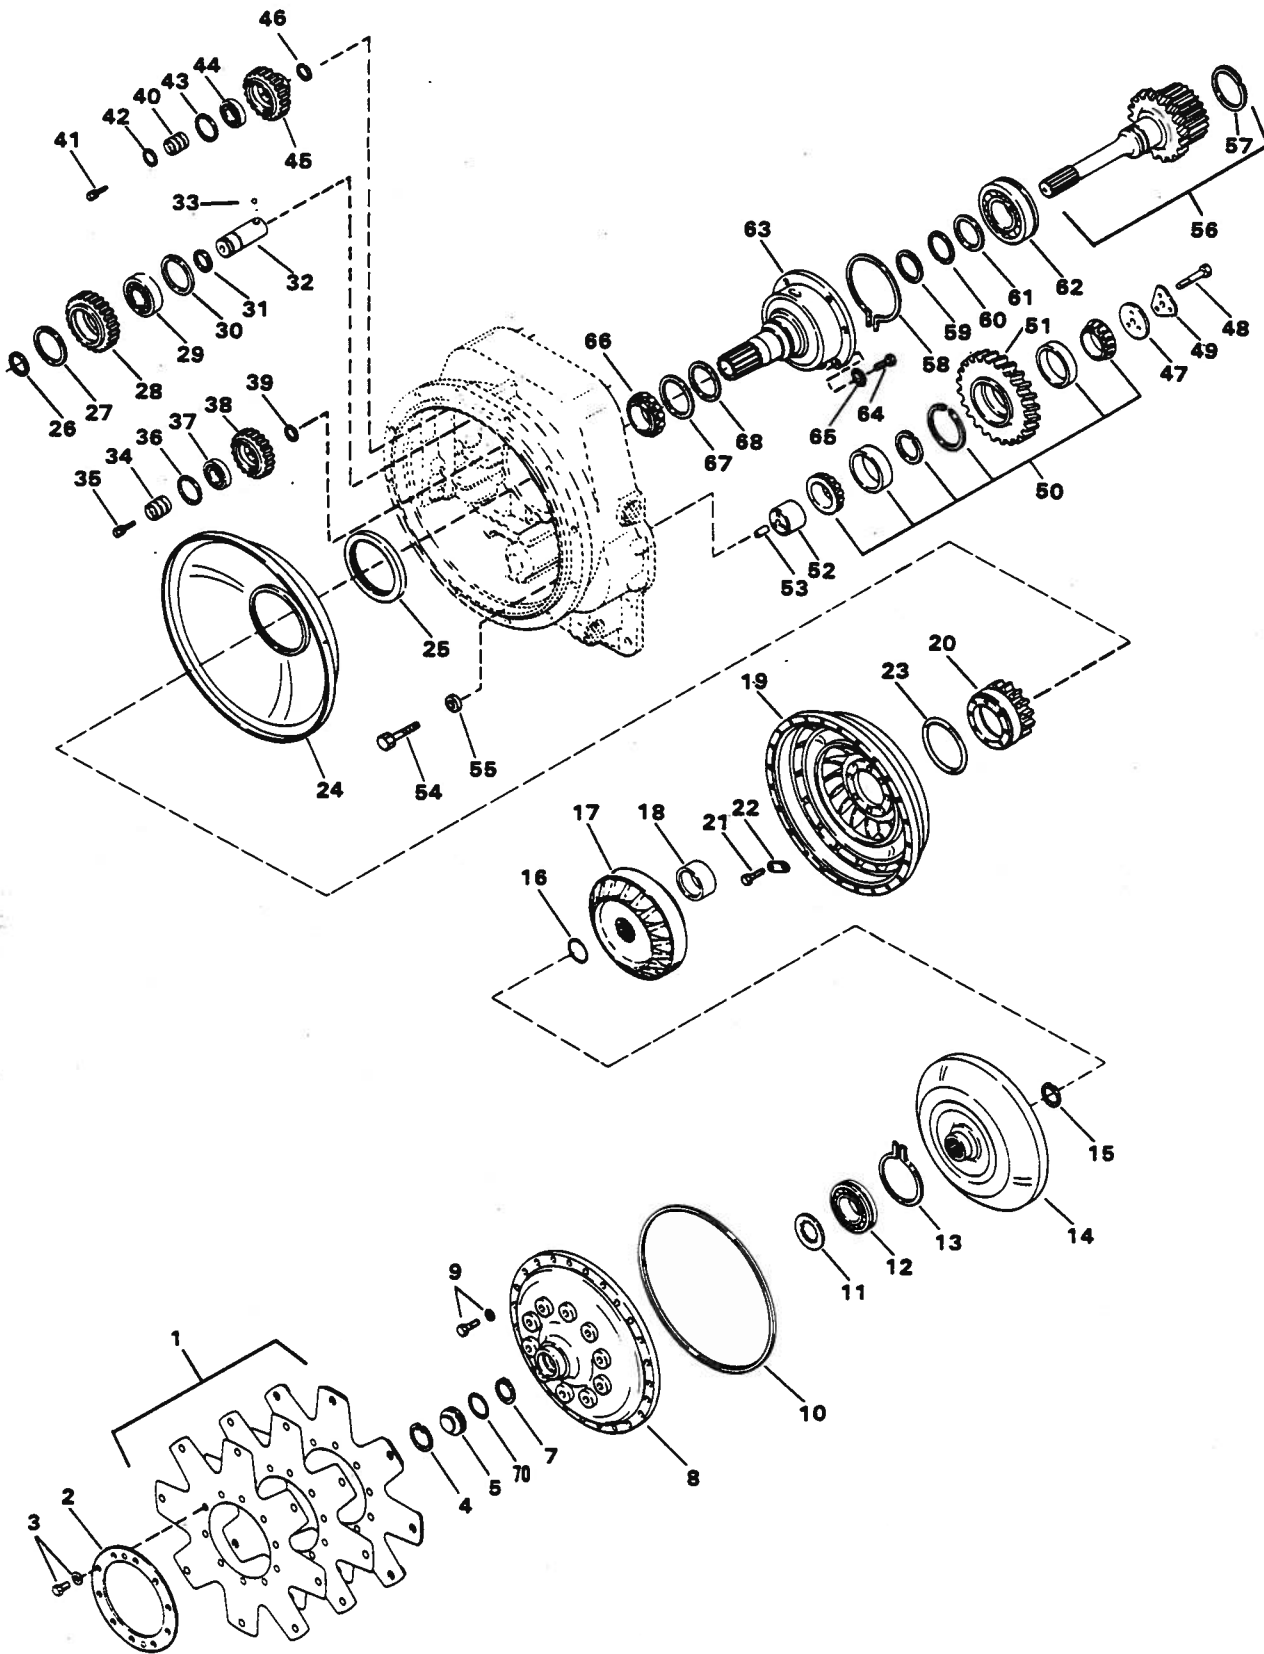
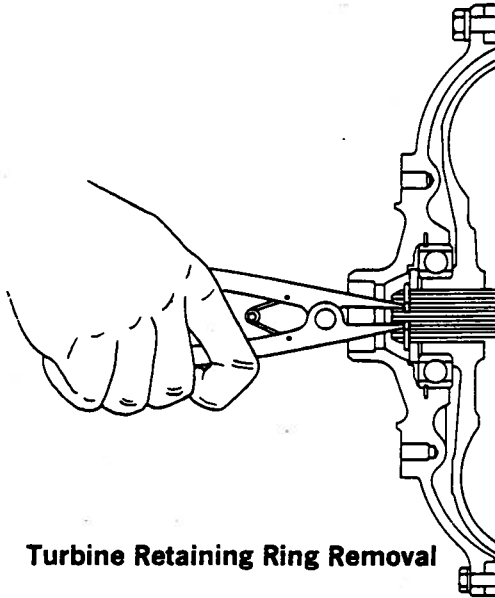
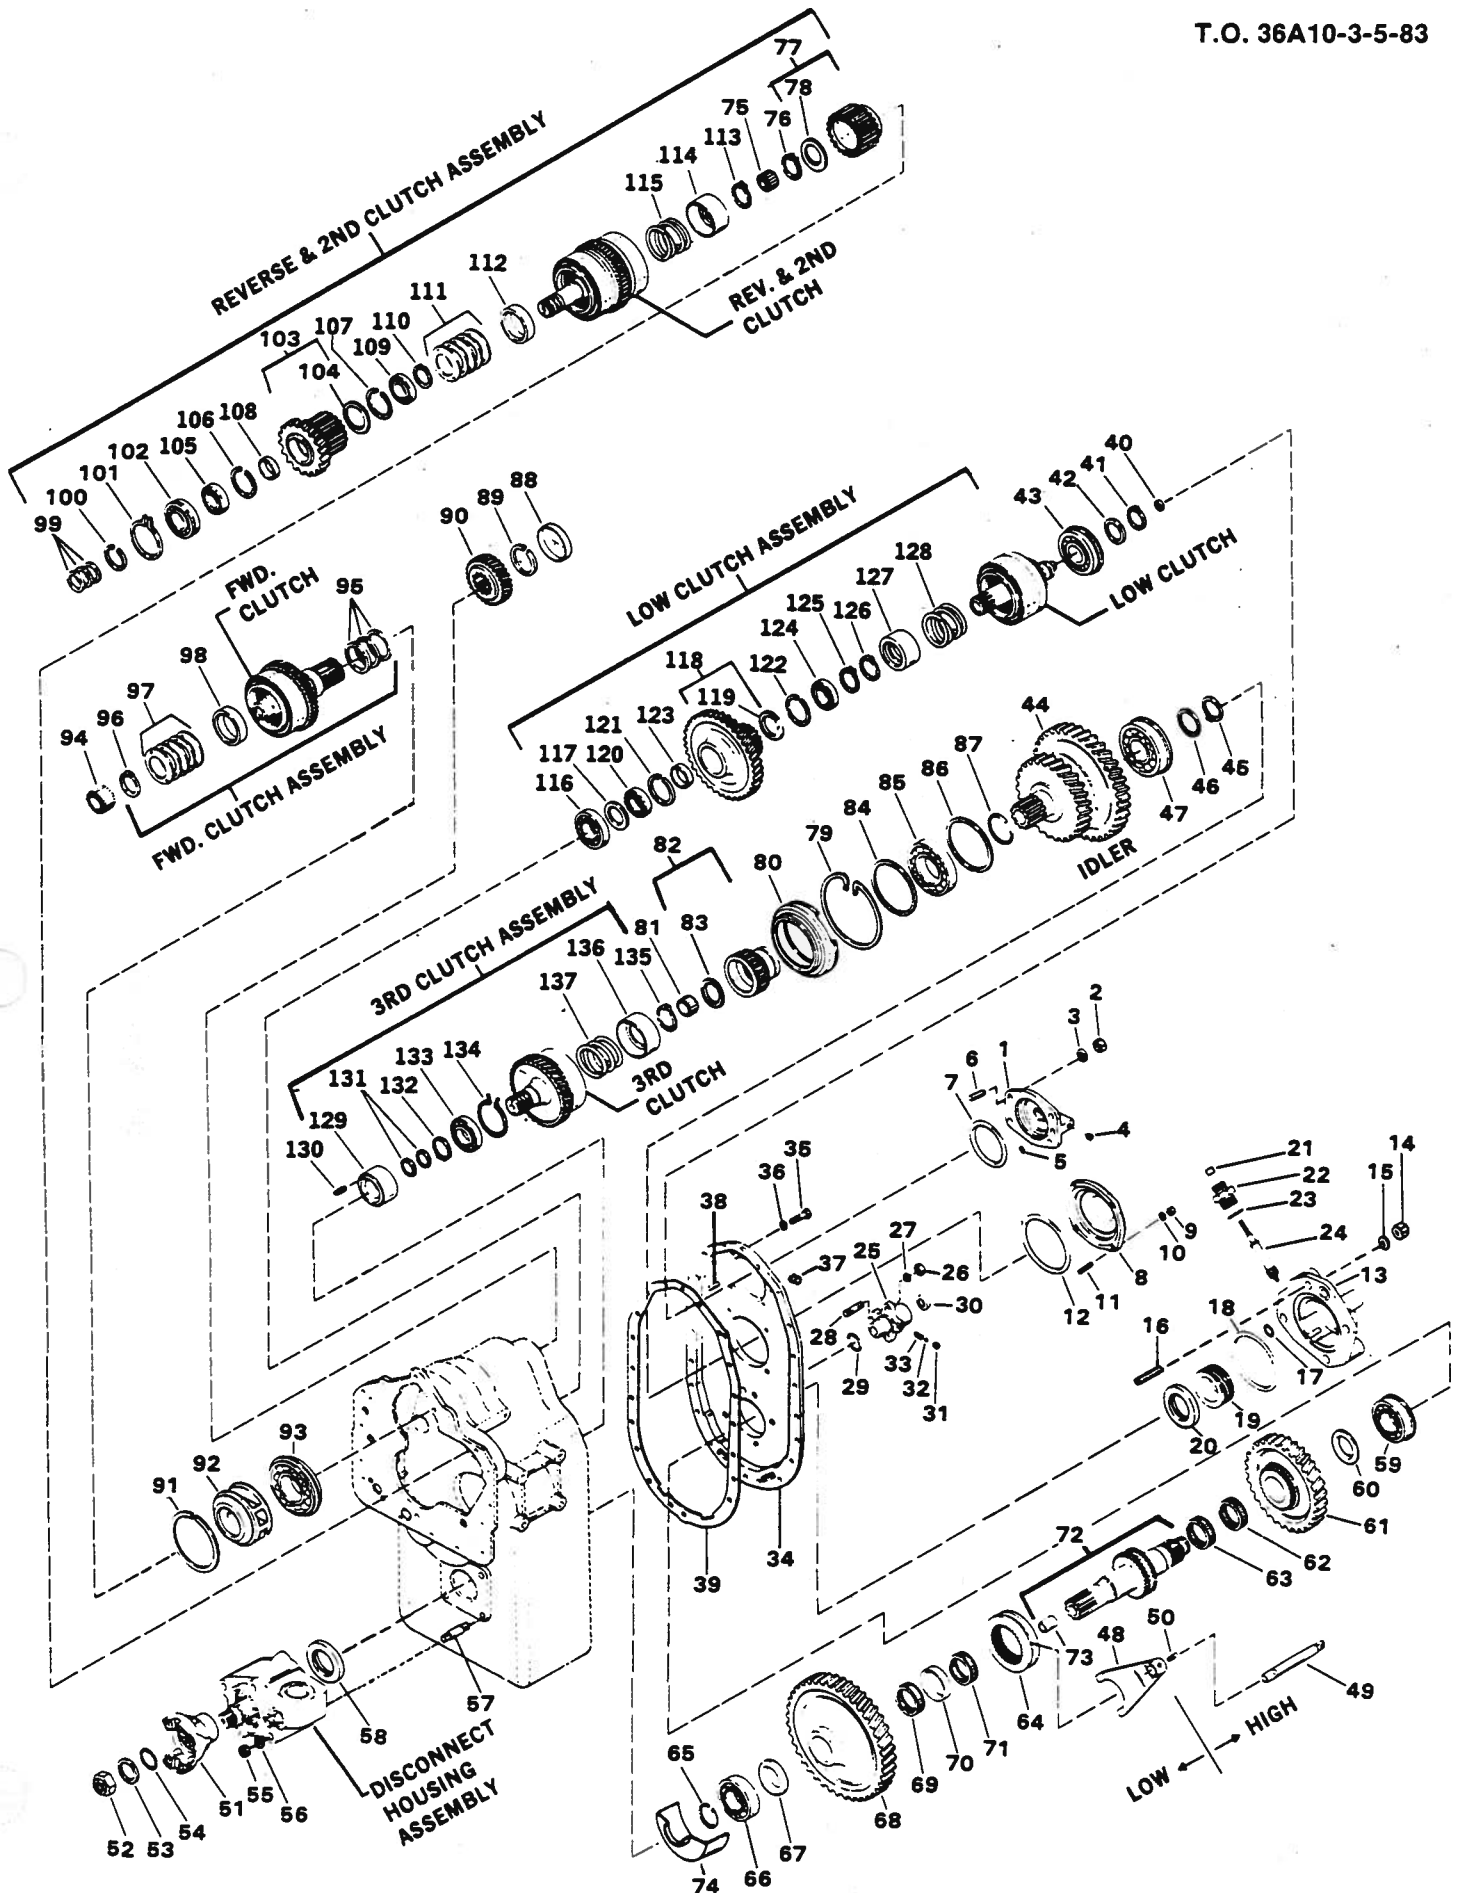

Figure 5-36. Transmission Converter Group
Figure 5-37. Turbine Retaining Ring Removal
Figure 5-40. Transmission Clutch and Gear Group
- c. Remove screen assembly (19) and gasket (20).
- d. Remove screws and lockwashers (3, figure 5-36), backing ring (2), and driveplate assembly (1).
- e. Remove retaining ring (4), bore plug (5), and O-ring (6).
- f. Remove retaining ring (7) as shown in figure 5-37. Remove screws and lockwashers (9, figure 5-36), and impeller cover (8) with O-ring (10), retaining washer (11), turbine hub bearing (12), and locating ring (13). Disassemble if necessary.
m. Remove locating ring (26, figure 5-36), idler gear (28) with retaining rings (27 and 30) and bearing (29). Disassemble if necessary. Remove locating ring (31).
n. Remove screws and lockwashers (35) then tap auxiliary pump drive gear (38), with bearing support (34), retaining ring (36), bearing (37), and locating ring (39), from housing using a soft mallet. Disassemble if necessary.
o. Remove bearing support screws and lockwashers (41) then tap pump drive gear (45), with locating ring (42), support (40), retaining ring (43), bearing (44), and locating ring (46), from housing using a soft mallet. Disassemble if necessary.
p. Open front bearing snap ring (101, figure 5-40) using spreading type snap ring pliers as shown in figure 5-41, then pry reverse and 2nd clutch assembly from converter housing (see figure 5-42). Disassemble reverse and 2nd clutch if necessary (para. 5-61).
r. Straighten tabs on lockplate (49, figure 5-36) from screws (48) then remove screws (48) and lockplate (49).
s. Remove screws (54) and lockwashers (55).
t. Remove idler gear assembly (50) with retaining plate (47), reverse idler gear (51), idler shaft (52), and pin (53).
u. Remove forward shaft pilot bearing (94, figure 5-40) from turbine shaft assembly (56, figure 5-36).
w. Remove screws (64, figure 5-36), lockwashers (65), and stator support (63). Remove hub gear bearing (66), piston ring (67), and expander spring (68) from stator support.
a. Remove nuts (2, figure 5-40), lockwashers (3), and bearing cap assembly (1) with plug (4) and O-rings (5 and 7).
- b. Remove nuts (9), lockwashers (10), bearing cap (8), and O-ring (12).
- d. Remove screws (6) and lockwashers (7), then remove brake drum (5) and brake flange (1).
- e. Remove return springs (8), shoes and linings (9), actuating lever (12), and roller (13).
- f. Remove screws (15), lockwashers (16), backing plate assembly (14), and spacers (17).
- g. Remove nuts (14, figure 5-40), lockwashers (15), bearing cap (13), Orings (17 and 18), speedo drive gear (19), and oil seal (20).
- h. Remove oil seal (21), tube nut (22), O-ring (23), and speedo drive gear (24).
- i. Remove nuts (26), lockwashers (27), shift rail support (25), and O-ring (29). Be careful not to lose detent ball.
- j. Remove oil seal (30), detent plug (31), mesh lock ball (32), and spring (33).
- k. Remove low clutch, idler shaft, and output shaft rear bearing locating rings (part of items 43, 47, and 59).
- l. Remove screws (35) and lockwashers (36). Pry cover (34) with gasket (39) from transmission case using pry slots provided. Tap low clutch, idler, and output shafts with a soft hammer to prevent cover binding.
- m. Remove piston ring (40), retaining ring (41), and support washer (42). Remove bearing (43).
- n. Remove idler gear assembly (44) with retaining ring (45), support washer (46), and bearing (47). Disassemble if necessary.
- o. Remove shift fork (48) with shift rail (49) and lockscrew (50). Disassemble if necessary.
- p. Remove flange nut (52), washer (53), O-ring (54), and front output flange (51).
- q. Remove nuts (55), lockwashers (56), and disconnect housing assembly. Disassemble disconnect housing assembly if necessary (para. 5-65).
LEGEND FOR FIGURE 5-36